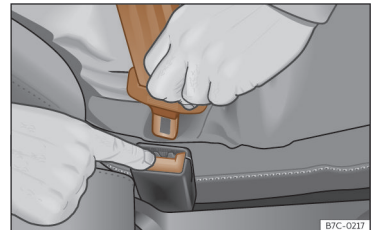

Fig. 10 Release the seat belt's buckle. »
- Press the red button on the buckle >>> **Fig. 10**. The latch plate is released from the buckle.